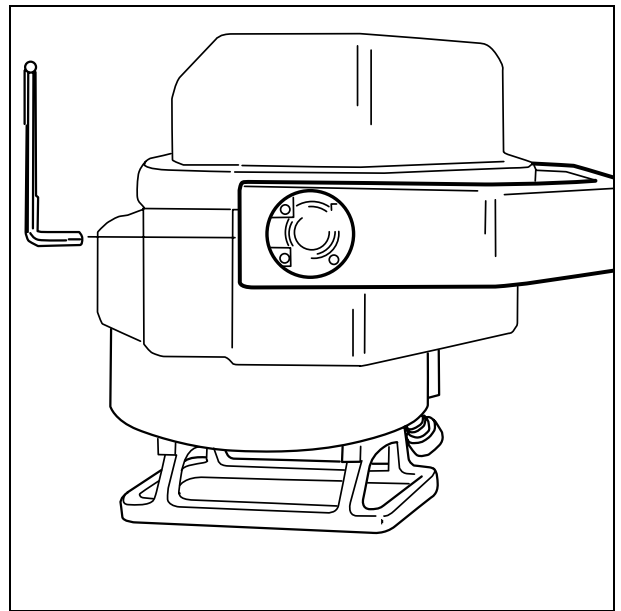

Fig. 8
- Tighten or loosen the friction adjustment (one on each side of the fork) (Fig. 8)